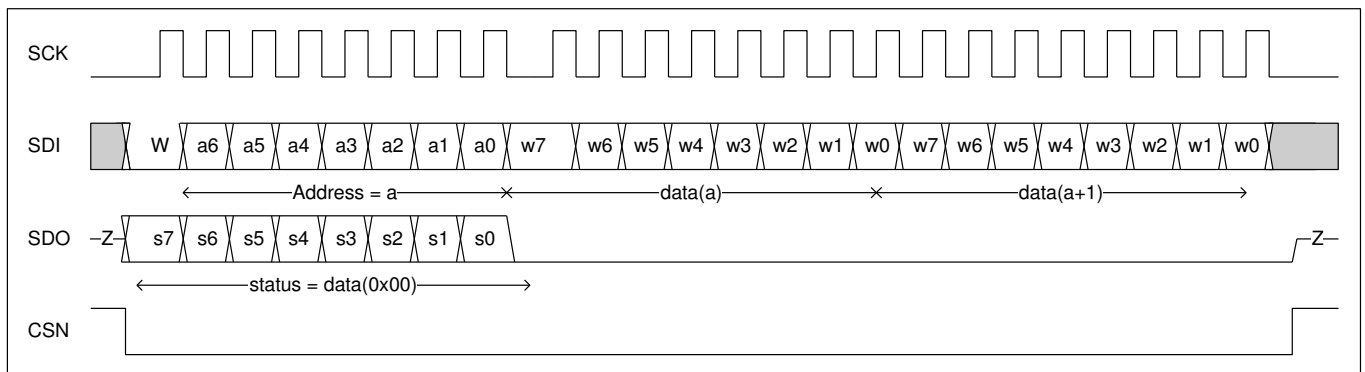

Figure 7: Multi-write SPI transaction
- Write one or more consecutive register(s) and read the status byte (register 0x00). See Figure 7 below.